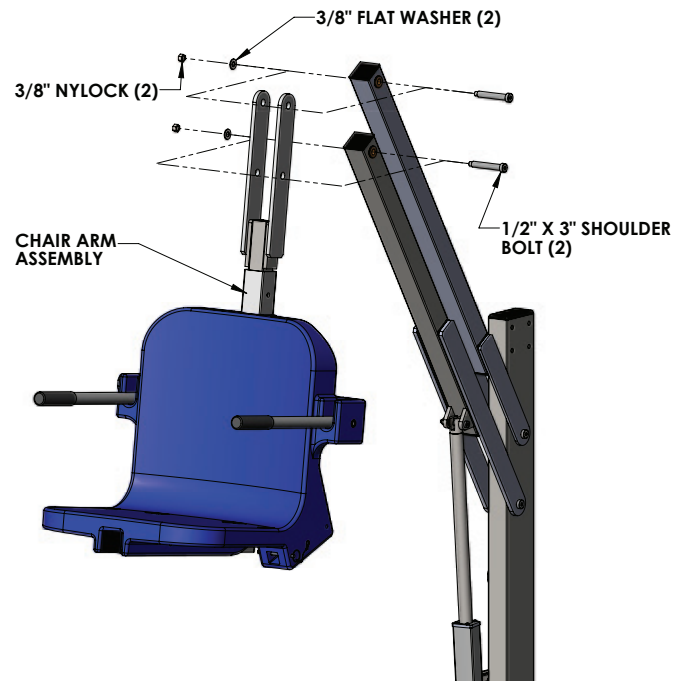

FIGURE 7
6. Connect the chair arm assembly to the lifting and control arms using the 1/2 inch shoulder bolts and 3/8 inch nylocks and flat washers. This may require two people. See FIGURE 7.